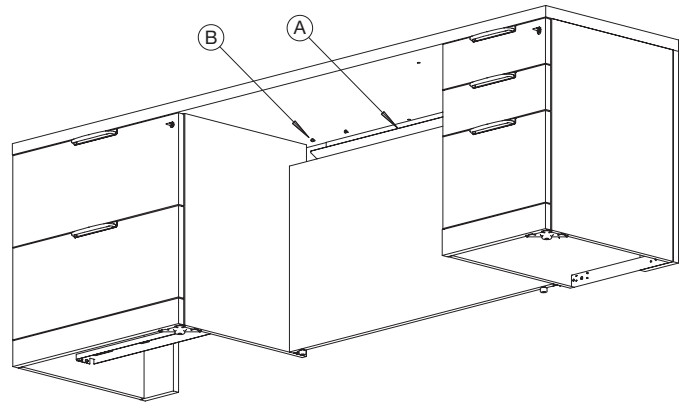

Fig. 2A
1. Position the wire manager (A) as required and using fastener (B) secure it to the mounting surface. (Fig. 2A & 2B)